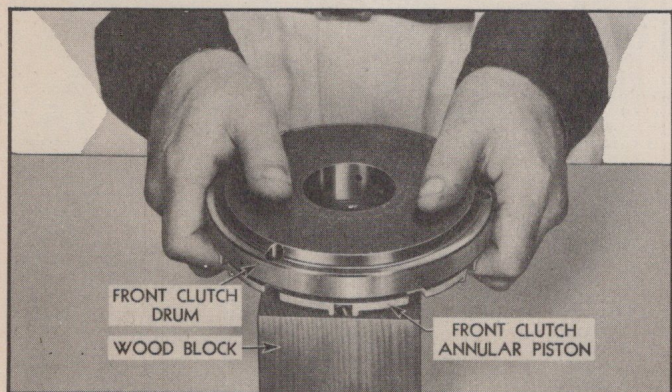

Fig. 137—Removing Annular Piston
3. Remove front clutch annular piston from clutch drum by bumping front face of center gear on soft wood block (Fig. 137).